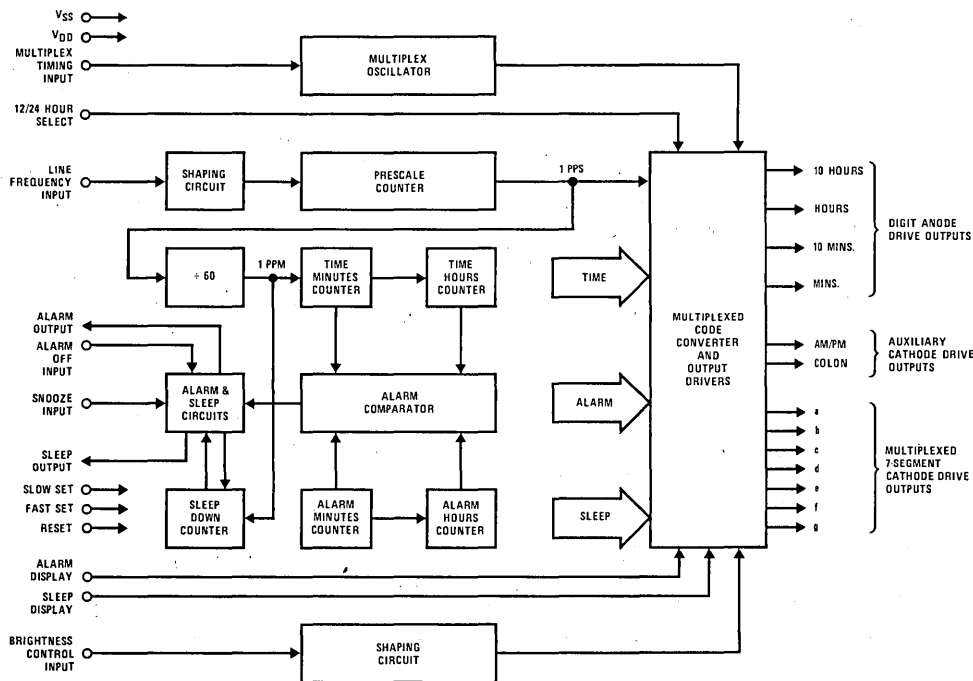

FIGURE 1. MM5370 and MM5371 Digital Alarm Clock, Block Diagram
A block diagram of the MM5370 and MM5371 clocks is shown in *Figure 1*. The various display modes provided by these clocks are listed in Table I. The functions of the controls are listed in Table II. A connection diagram for these devices is shown on page 1. Unless indicated otherwise, the following discussions are based on *Figure 1*.
**Display Mode Select Inputs (pins 7 and 8):** In the absence of either of these inputs, the display drivers output time-of-day information to the display. Internal pull-down (to  $V_{DD}$ ) depletion loads allow use of simple SPST switches for connecting these inputs to  $V_{SS}$ , thereby selecting alternate display modes. If more than one mode is simultaneously selected, the priorities are as noted in Table I. As shown in Figure 1 the multiplexed code converter receives time, alarm and sleep information from appropriate points in the clock circuitry. The display mode select inputs control the gating of the desired data to the multiplexed code converter inputs and ultimately (via output drivers) to the display.